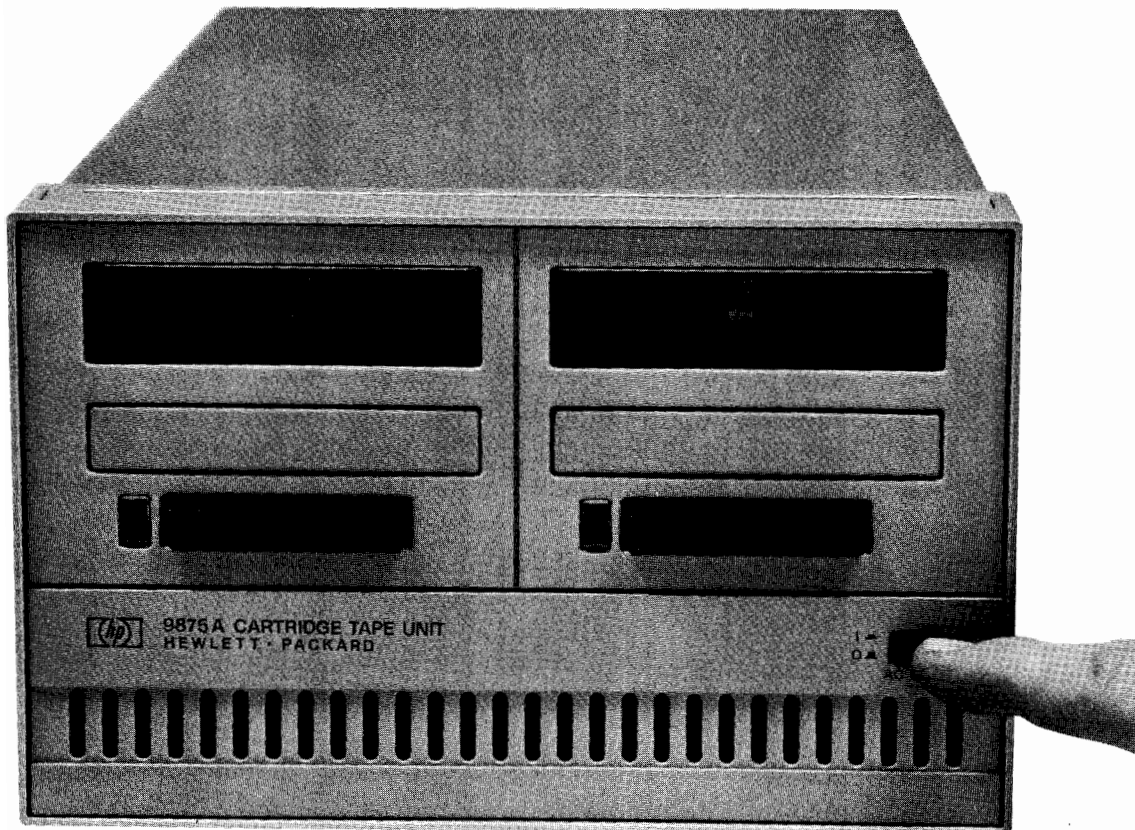

Figure 1-7: Enabling Power to the CTU
5. Enable power by depressing the switch on the front panel (Figure 1-7).